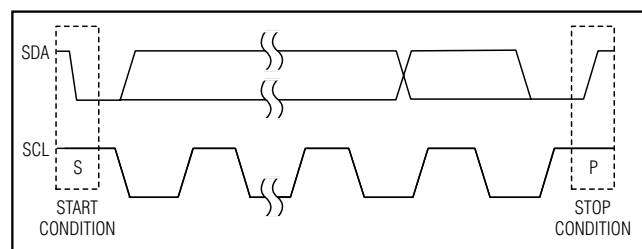
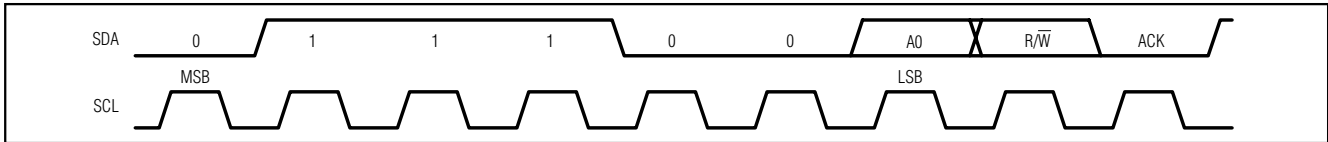

Figure 2. Start and Stop Conditions
Figure 3. Slave Address
Each transmission consists of a START condition (Figure 2) sent by a master, followed by the MAX6958/MAX6959 7-bit slave address plus  $R/\bar{W}$  bit (Figure 3), 1 or more data bytes, and finally a STOP condition (Figure 2).
Both SCL and SDA remain high when the interface is not busy. A master signals the beginning of a transmission with a START (S) condition by transitioning SDA from high to low while SCL is high. When the master has finished communicating with the slave, it issues a STOP (P) condition by transitioning the SDA from low to high while SCL is high. The bus is then free for another transmission (Figure 2).
The MAX6958/MAX6959 have a 7-bit-long slave address (Figure 3). The eighth bit following the 7-bit slave address is the R/W bit. Set the R/W bit low for a write command and high for a read command.